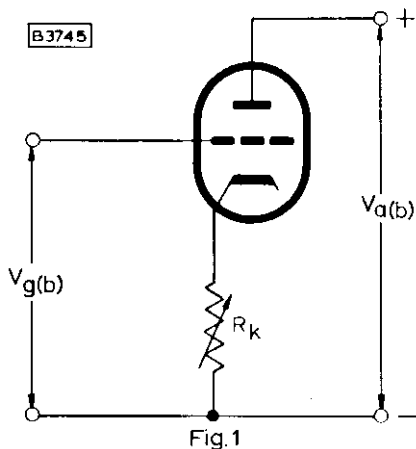

Fig.1
* R_k should consist of a variable resistor and be adjusted to give the required anode current (see Fig.1).